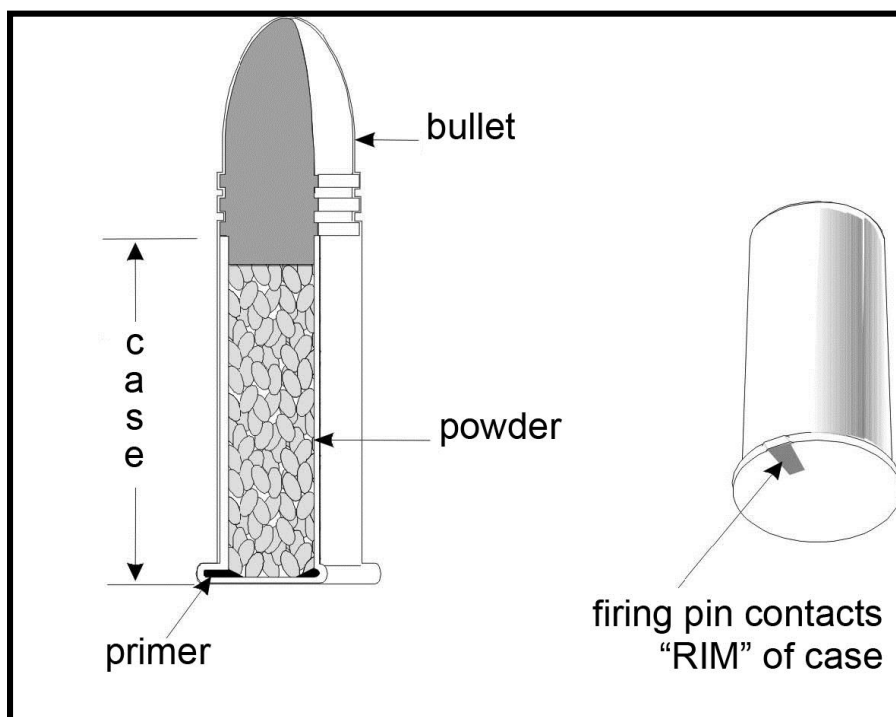

Figure 94. Rim-fire Cartridge
- a. Rim-fire ammunition's priming chemical fills the space inside the bottom rim of a thin brass or copper cartridge casing. The soft rim dents when struck by the firing pin. This crushes the priming compound. It explodes, and this ignites the powder (Figure 94).